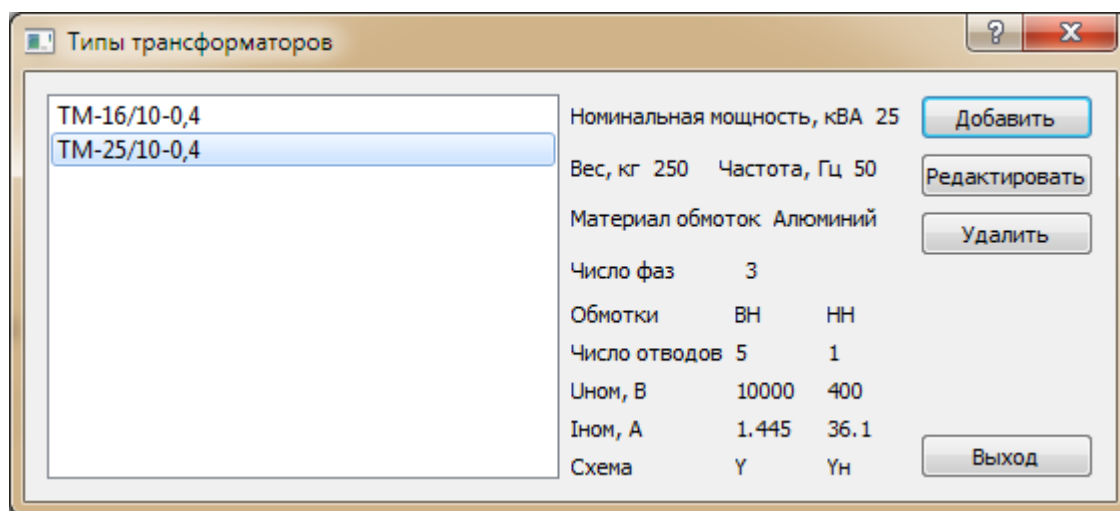

Fig. 25. Transformer Type Directory
6.1.1. The directory opens through the menu ‘Test -> Transformer Types...’. The directory window is shown in Fig.25.